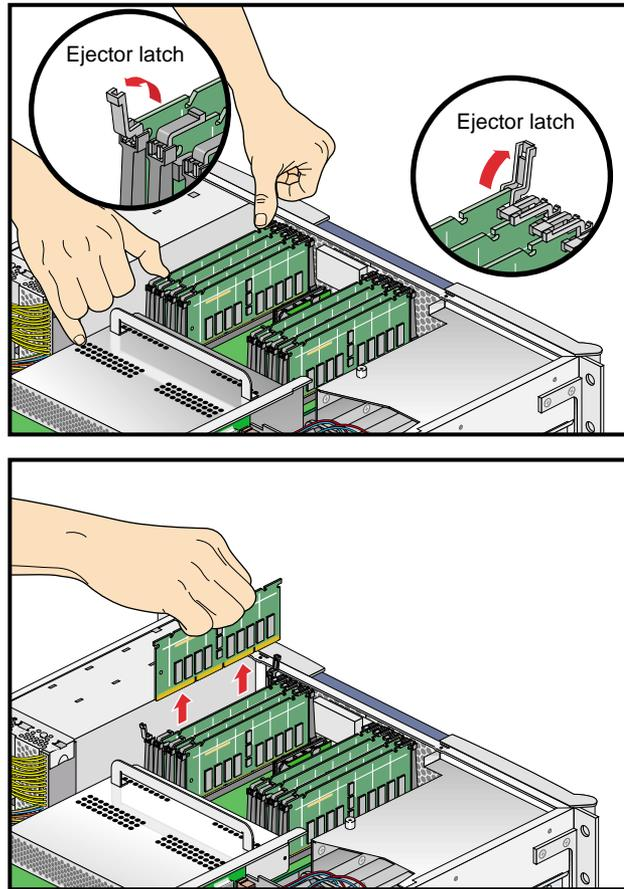

Figure A-10 Removing a DIMM
7. Remove the DIMM, as follows (see Figure A-10):